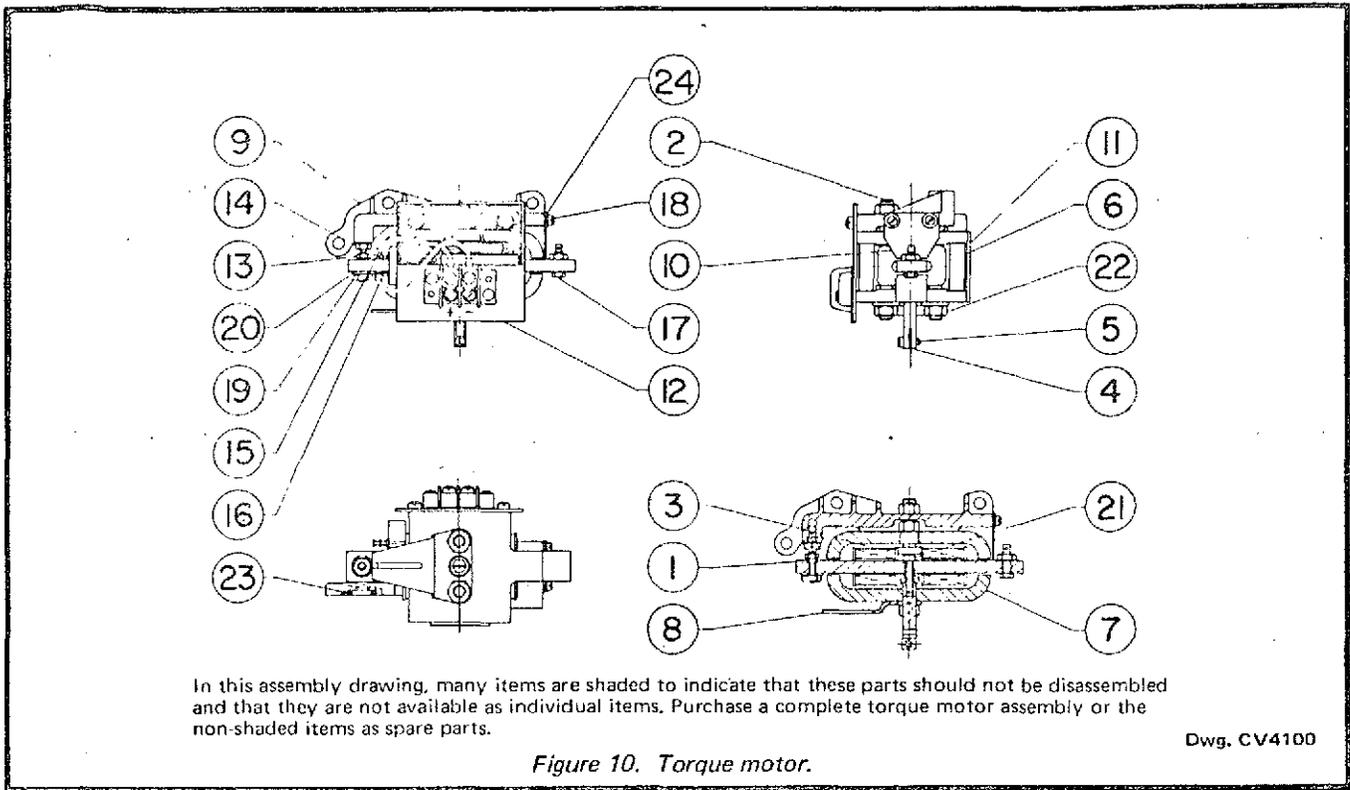
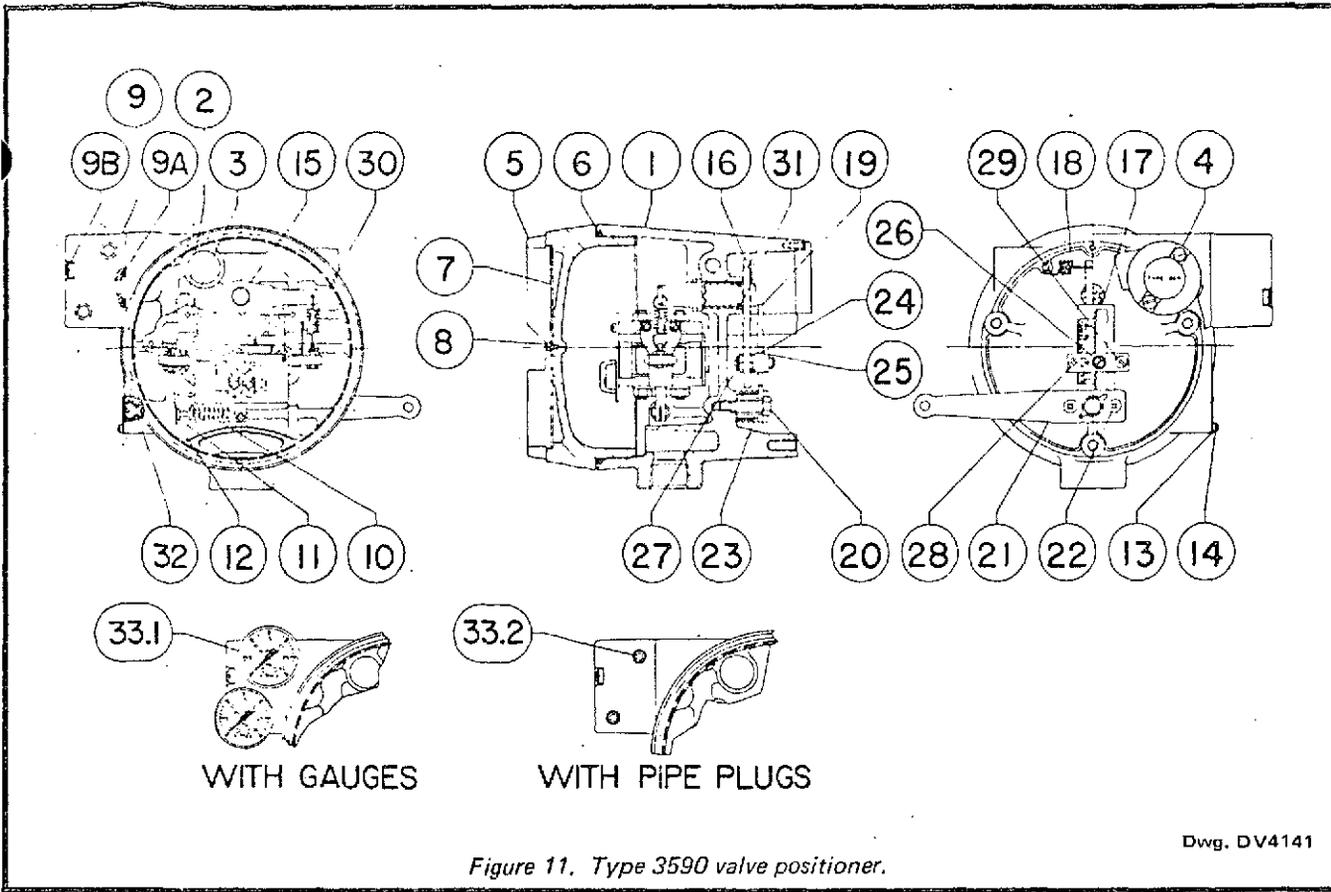

Figure 10. Torque motor.
Figure 11. Type 3590 valve positioner.
The electrical connections are made on the positioner case. A 3/4" NPT conduit connection is provided in the bottom of the case. Use a suitable conduit seal for hazardous locations. The wires that carry the milliampere signal from the controller are connected to the terminal strip (Key 12, Figure 10). The terminal strip is marked "+" and "-" to indicate the positive and negative terminals.
1.1.2 Unhook feedback spring (Key 30, Figure 11) from feedback lever (Key 15, Figure 11) and spring anchor (Key 17, Figure 10).
The torque motor assembly which consists of permanent magnets, pole pieces, torque motor mounting plate, etc., should never be disassembled because the level of magnetism in the magnets will decrease, and will not return upon reassembly. Consequently, you will be unable to obtain proper span. If it is known that the torque motor is faulty, replace the entire motor with a new one and return the faulty torque motor to the factory for repairs. Figure 10 shows the torque motor and associated parts. Those key numbers that are shaded indicate the parts that should not be disassembled from the torque motor.
4. Leaks in pneumatic relay, its diaphragm, and O-rings. Leaks in torque motor O-ring (Key 23, Figure 10) and manifold O-ring (Key 9A, Figure 11).
6. Dirty flame arresters. The entire torque motor assembly, as shown in Figure 10, has to be removed from the case to clean the flame arrester. If flame arresters are dirty, blow them out with air pressure.